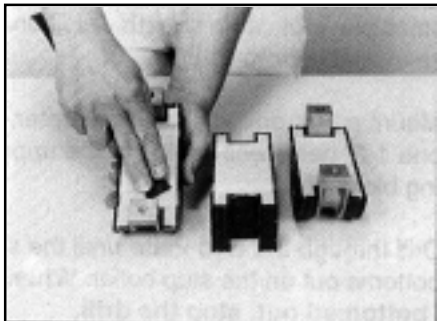

FIGURE 11 – SCUFFING CABLE OPENINGS
6.01 Remove sharp edges on plastic and foam in area of opening with emery cloth (provided). (Figure 11)